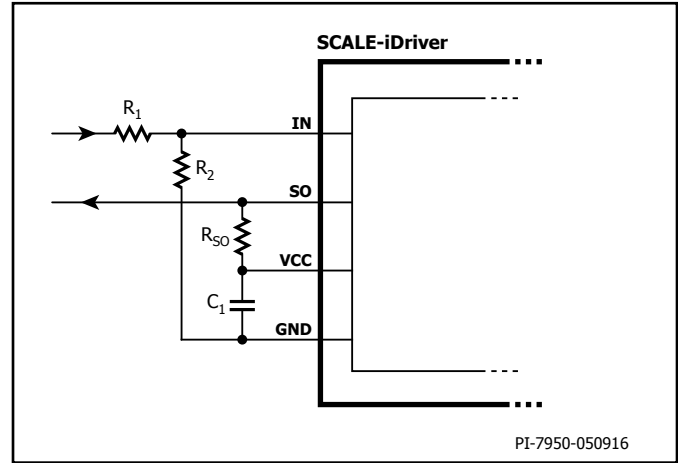
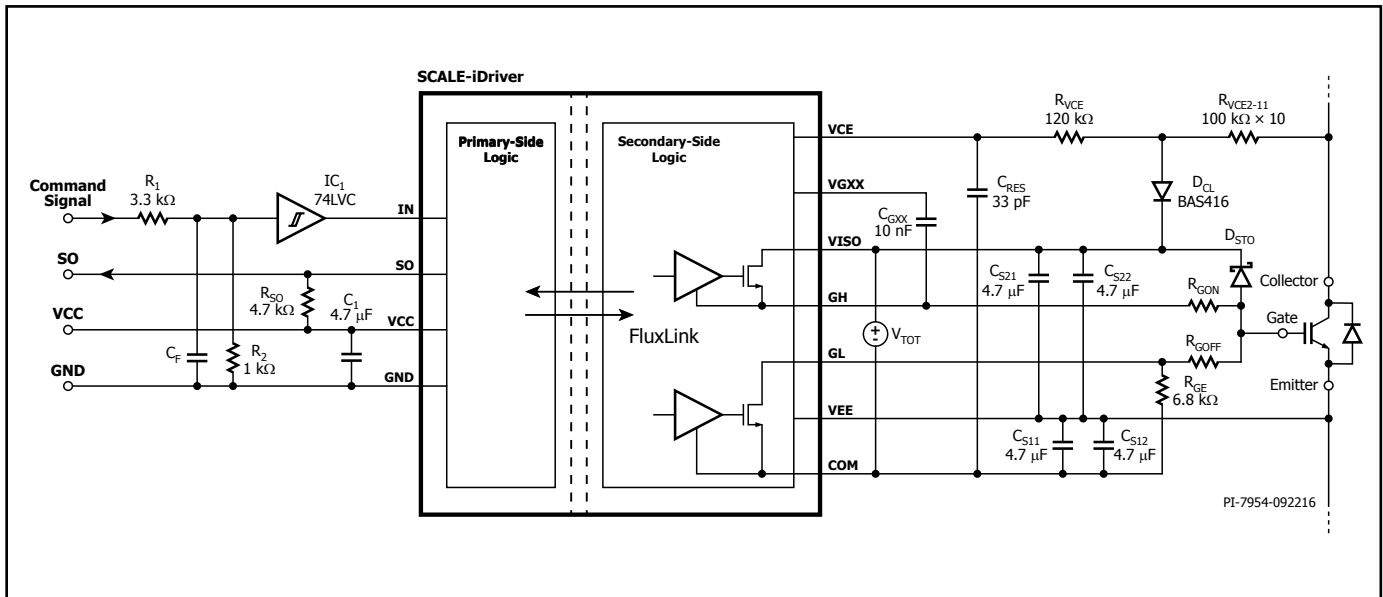

Figure 5. Increased Threshold Voltages V_{IN+LT} and V_{IN+HT} For $R_1 = 3.3 \text{ k}\Omega$ and $R_2 = 1 \text{ k}\Omega$ the IN Logic Level is 15 V.
Figure 13. SCALE-iDriver Application Example Using a Resistor Network for Desaturation Detection.
The input (IN) and output (SO) logic is designed to work directly with micro-controllers using 5 V CMOS logic. If the physical distance between the controller and the SCALE-iDriver is large or if a different logic level is required the resistive divider in Figure 5, or Schmitt-trigger ICs (Figures 13 and 14) can be used. Both solutions adjust the logic level as necessary and will also improve the driver's noise immunity.
and power-down. Any supply voltage related to VCC, VISO, VEE and VGXX pins should be stabilized using ceramic capacitors C_1 , C_{S1X} , C_{S2X} , C_{GXX} respectively as shown in Figures 13 and 14. After supply voltages reach their nominal values, the driver will begin to function after a time delay t_{START} .
Figures 13 and 14 show the schematic and typical components used for a SCALE-iDriver design. In both cases the primary-side supply voltage (V_{VCC}) is connected between VCC and GND pins and supported through a supply bypass ceramic capacitor C_1 (4.7 μ F typically). If the command signal voltage level is higher than the rated IN pin voltage (in this case 15 V) a resistive voltage divider should be used. Additional capacitor C_F and Schmitt trigger IC_1 can be used to provide input signal filtering. The SO output has 5 V logic and the R_{SO} is selected so that it does not exceed absolute maximum rated I_{SO} current.
Figure 13 shows how switch desaturation can be measured using resistors $R_{VCE2} - R_{VCE11}$. In this example all the resistors have a value of 100 kΩ and 1206 size. The total resistance is 1 MΩ. The resistors should be chosen to limit current to between 0.6 mA to 0.8 mA at maximum DC-link voltage. The sum of $R_{VCE2} - R_{VCE11}$ should be approximately 1 MΩ for 1200 V semiconductors and 500 kΩ for 600 V semiconductors. In each case the resistor string must provide sufficient creepage and clearance distances between collector of the semiconductor and SCALE-iDriver. The low leakage diode D_{CL} keeps the short-circuit duration constant over a wide DC-link voltage range.
Figure 15 shows the recommended PCB layout and corresponds to the schematic in Figure 13. The PCB is a two layer design. It is important to ensure that PCB traces do not cover the area below the desaturation resistors or diodes D_{VCE1} and D_{VCE2} . This is a critical design requirement to avoid coupling capacitance with the SCALE-iDriver's VCE pin and isolation issues within the PCB.